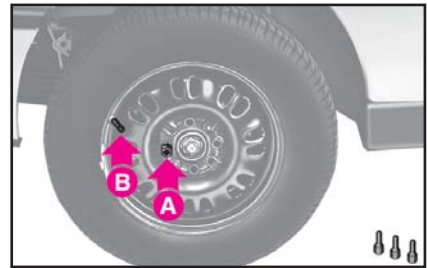

fig. 6
9) Fasten one bolt **A**-fig. 6 near the inflation valve **B**.